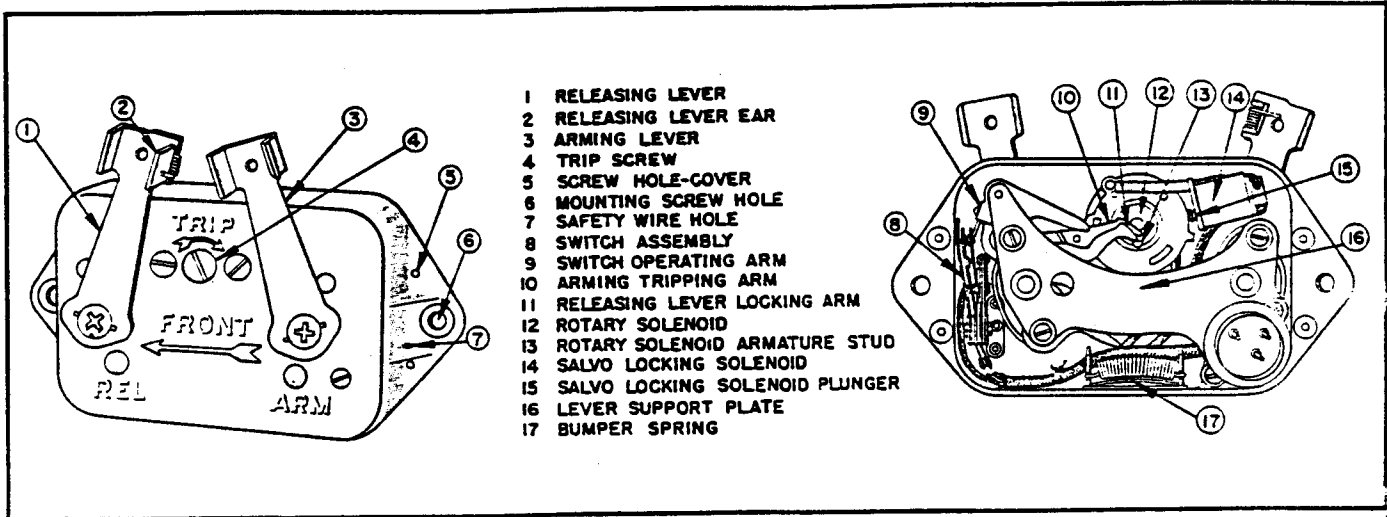

Figure 8. Type A-4 Bomb Rack Release
1. DESCRIPTION.- The bomb rack release type A-4 is an electrically operated, mechanical device designed to arm and release bombs from their racks. The release consists of an arming lever, a release lever, a rotary solenoid for tripping the two levers, a solenoid for salvo bombing (dropping the bombs without arming them), a releasing arm and an arming arm, a transfer switch combined with an indicator light switch plus a switch operating arm, a shock plate, a trip screw, and a three-prong electrical connector. The unit is made in left and right hand assemblies to accommodate bombs on both sides of the rack. The arming lever and the release lever are pivoted on the outside of the front of the case. (See figure 8.) The forks of the two levers engage the two levers on the bomb shackle; one to arm the bomb and the other to release it. The bomb rack release should be mounted so that the arrow on the front of the case points to the front of the airplane.